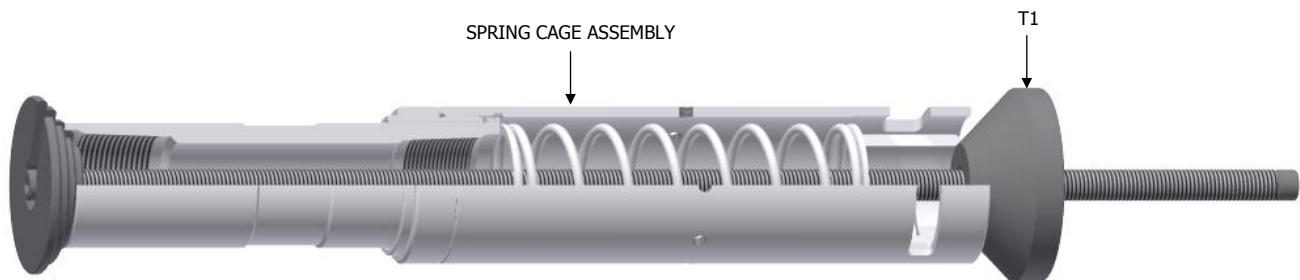

Fig. 4
K-1.1.2) Compress compression spring (4) with assembly tool (T1) (Fig. 4).